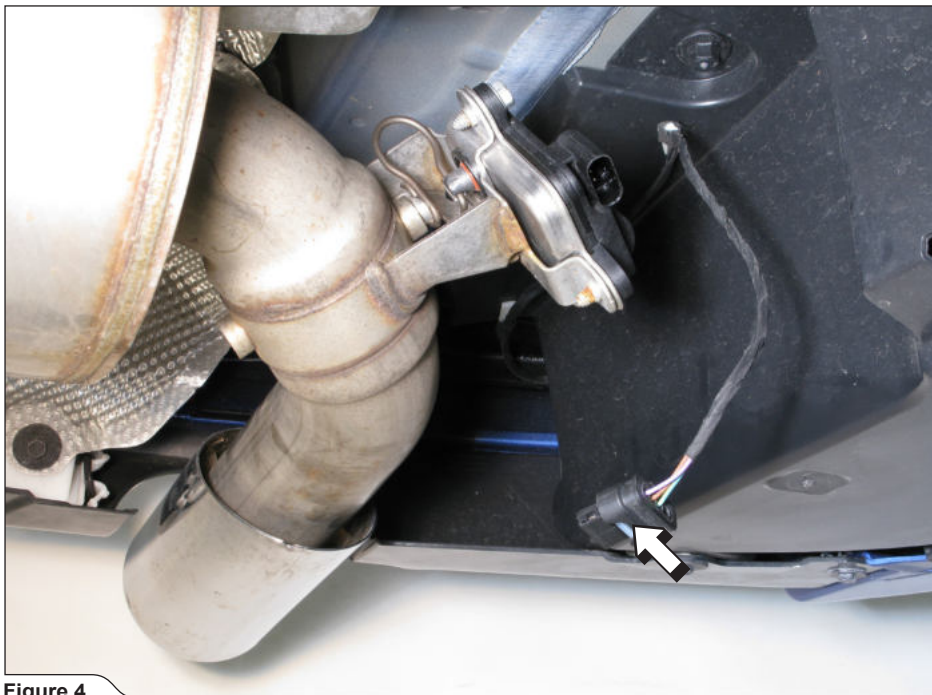

Figure 4
4. Disconnect the exhaust valve servo's connector (**Figure 4**).